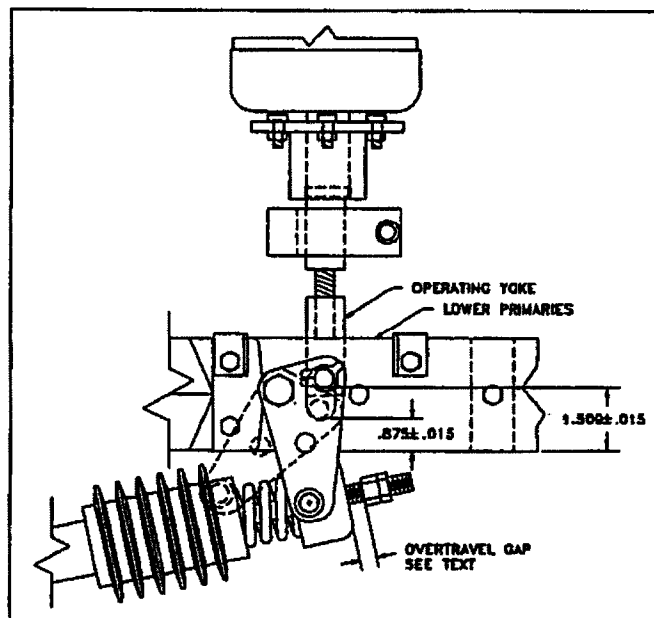

Figure 26. Operating Yoke Adjustments
- With closed contacts on a new vacuum interrupter, the bottom of the pin which connects the bell cranks to the operating yoke should be 0.875 ± 0.015 " above the bottom of the lower main primary disconnect bars. See Figure 26.
- As explained in the description of the mechanism operation, when the breaker is closed a gap will exist between the contact loading spring yoke and the nut on the push rod stud, Figure 26. With a new vacuum interrupter, this gap will be between $\frac{1}{2}$ inch and $\frac{5}{8}$ inch. As the contacts erode, the gap will reduce to about $\frac{1}{8}$ inch.
- e. Unscrew and remove the operating yoke at the lower end of the vacuum interrupter (Figure 26).